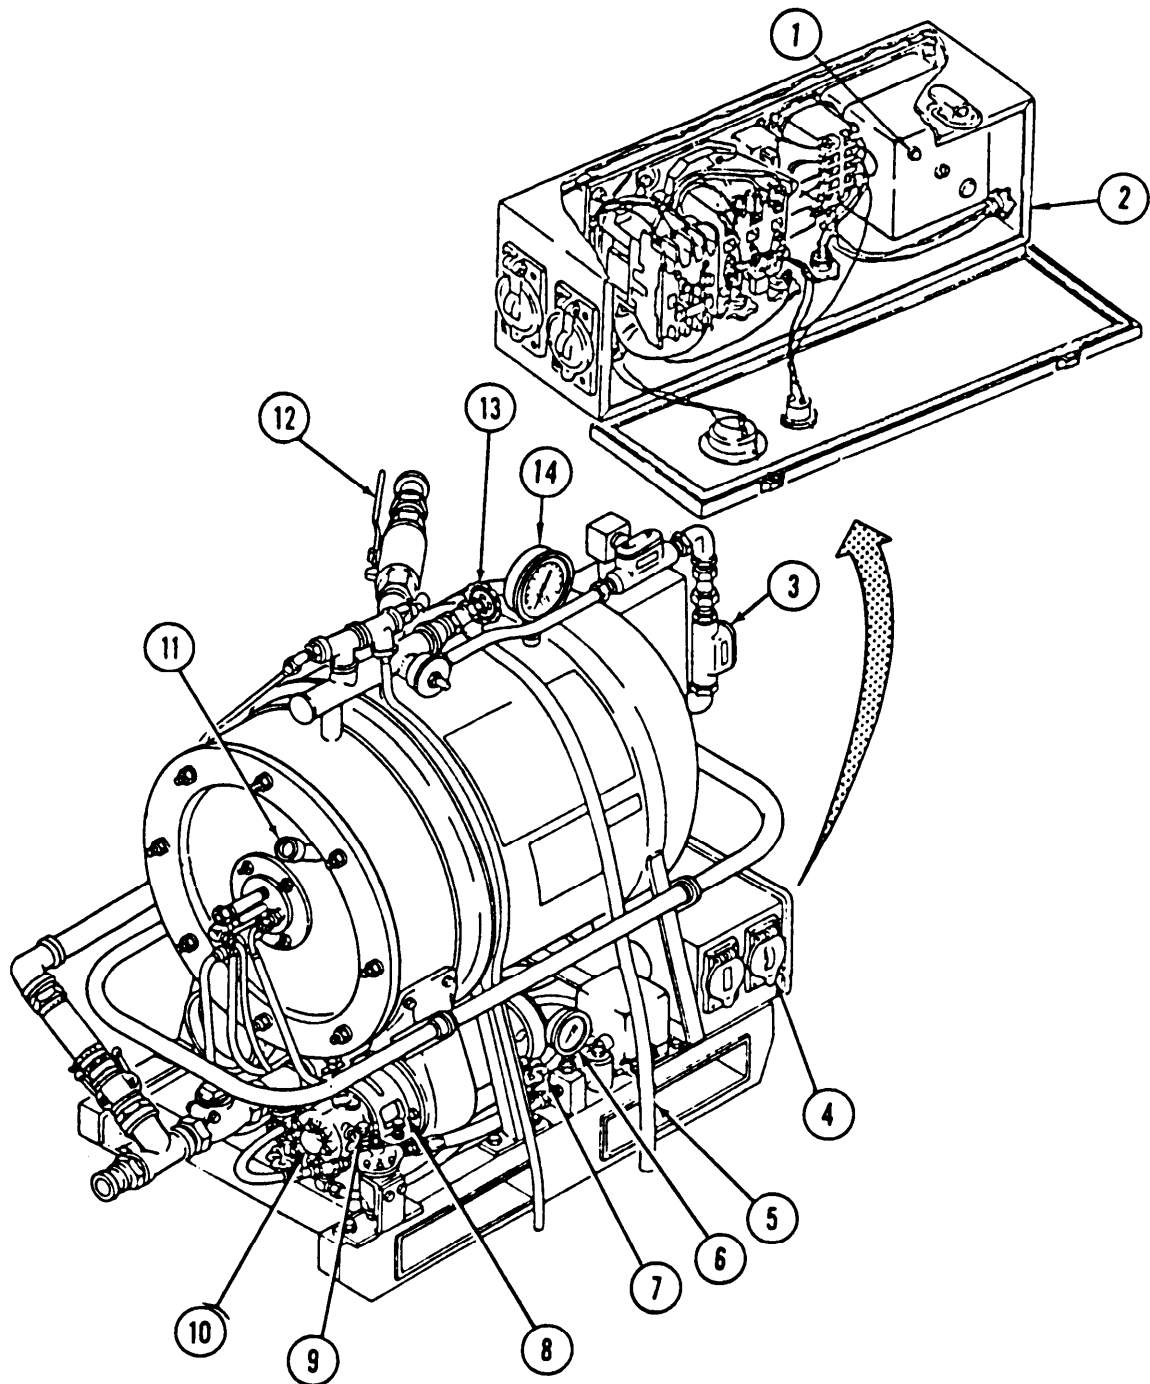

Figure 2-18. Water Heater Controls
- (1) Be sure that fuel shutoff valve (7, Figure 2-18) is closed. Clockwise rotation closes valve.
- (2) Set load limit switch (4) on the water heater to the ON position, then to the OFF position, and check for proper motor rotation. If motor does not rotate in direction of arrows, refer to similar water pump troubleshooting table 3-2, malfunction 1, step 2. If motor is rotating in correct direction, place switch in the ON position.
- (3) Open water outlet valve (12).
- (4) Open bleeder valve (13) until a steady stream of water flows from vent hose (5). Close the valve.